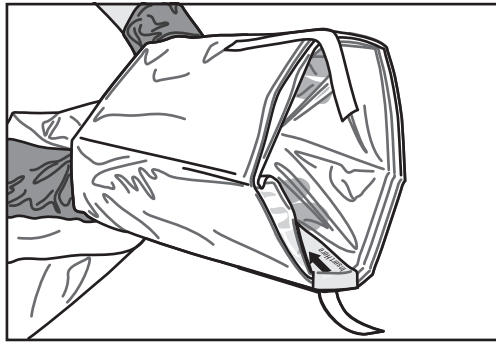

Figure 3. Opening the Bag
4. The sterile operator places their hands into the innermost folds of the bag, opening the bag for MDU5 PLUS placement by the non-sterile operator. The “Insert Here” sticker can be used to easily locate the bag opening (Figure 3).